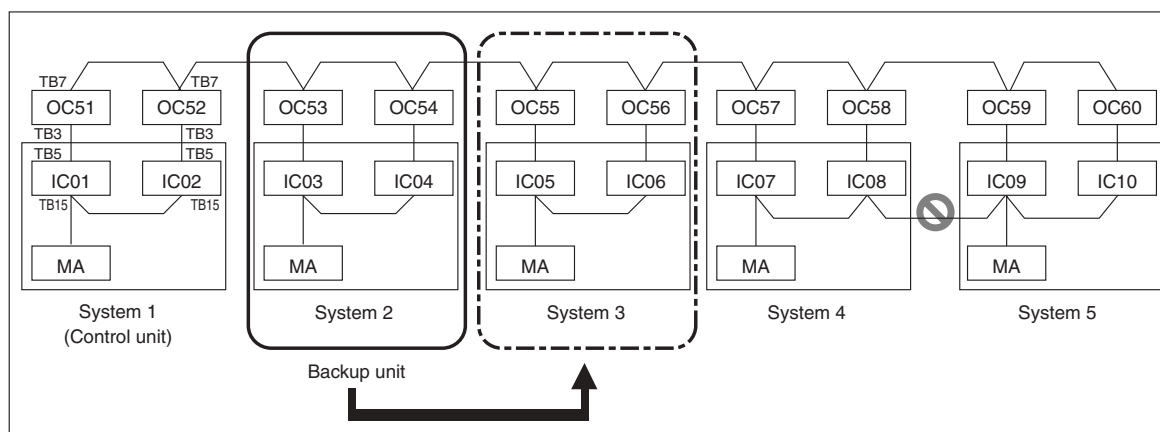

Figure 1 Sample 20HP system group
- 4) Assign sequential addresses to the units as shown below (Figure 1).
- The unit designated as the control unit (System 1 in Figure 1) sends command signals to other units in the group to start or stop, and rotates the backup unit every 480 hours.
(e.g., System 2→System 3→System 4→System 5→System 1 in Figure 1 below)